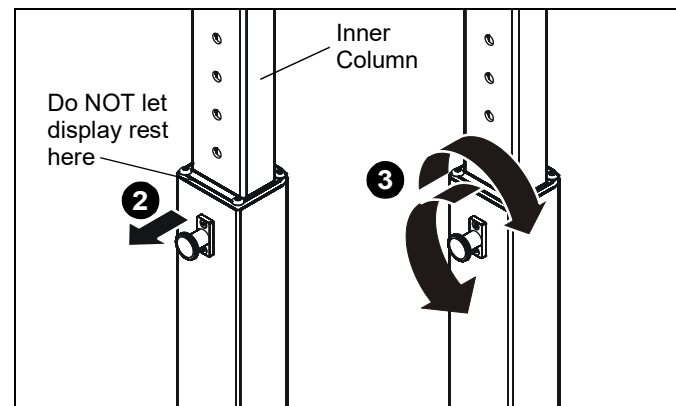

Figure 8
2. Adjust the stand to the desired height by slightly lifting the head assembly, pulling out knob on the center post and turning 90° in either direction to disengage the locking mechanism. (See Figure 8)
3. Raise or lower the center post, then turn the knob 90° either direction to engage the knob and lock the stand at desired height. (See Figure 8)
**IMPORTANT ! :** Set the height of the stand so the display does NOT rest on the lower part of the center post. (See Figure 8) Always set the height so the knob is engaged in a hole in the center post.